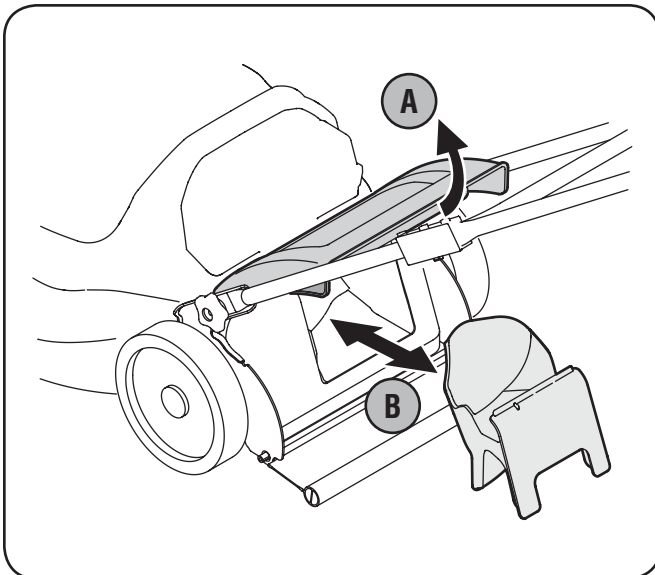

Figure 3-4
- b. Remove rear mulching baffle. See Fig. 3-4.